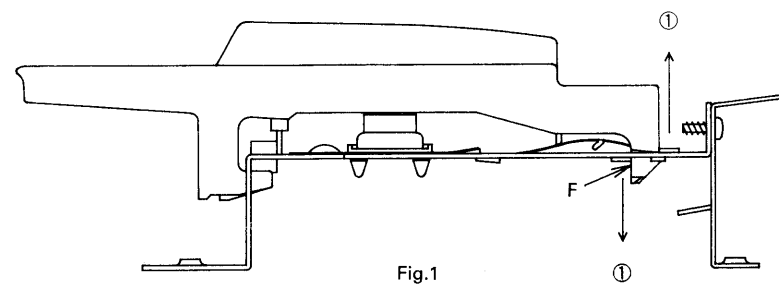

Fig.1
3. Verify that there is on clearance between the key fulcrum and portion F in the chassis. Attach the stopper (Fig. 1) on the portion F.
3. KEY支点部とシャーシ係合部間(F)に隙間の無い事を確認し、ストッパーはFig. 1に示す(F)に沿って貼る。
① CONTACT BOARD INSTALLATION